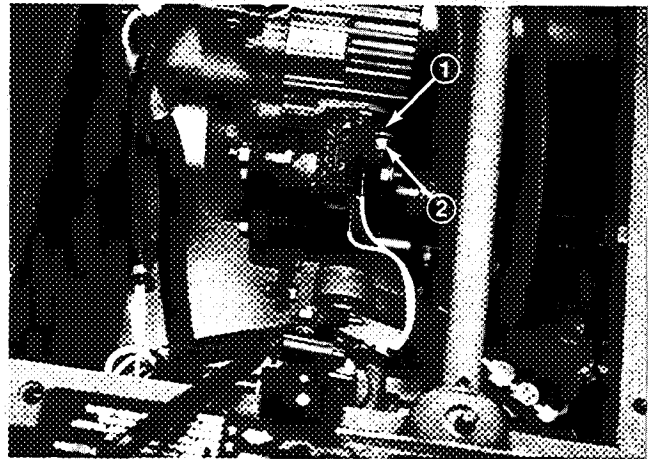

Figure 41
4. Loosen two locknuts securing pump plate so plate is free to move (Fig. 41).
5. Start engine and rotate pump plate (Fig. 41) in either direction until wheel ceases rotation.
1. Pump plate      2. Locknut (2)
6. Stop engine and tighten locknuts to secure pump plate (Fig. 41).